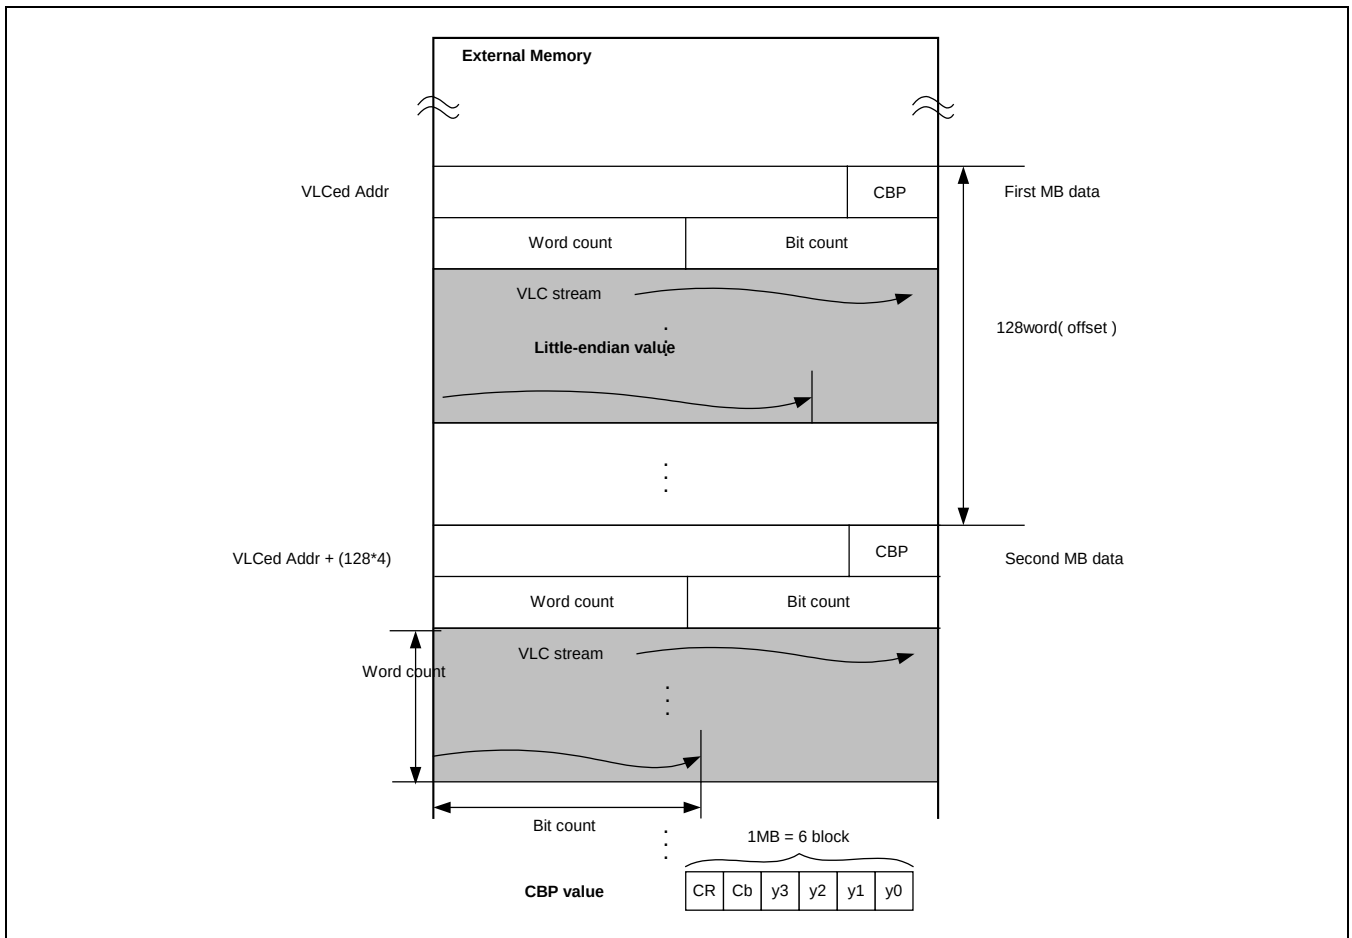

Figure 24-20. VLC Output Bit Stream Format
- VLC output save external memory on 1 word value. Not coded information, from MSB to LSB data. {word count(16-bit), bit count(16-bit) }, VLC coeff. ordered save.VLX output in VLC mode are CBP information, Word count, Bit count VLCed stream data. Figure 24-20 show the output format in VLC mode.
- One MB has six block so CBP information is six bit output. 0 bit is y0 block and 5-bit is Cr block. Figure 24-20 show the CBP bit information.